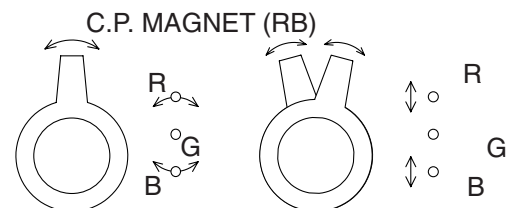

Fig. 7
2. Loosen the Ring Lock and align red with blue dots or crosshatch at the center of the screen by rotating (RB) C.P. Magnets. (See Fig. 7.)